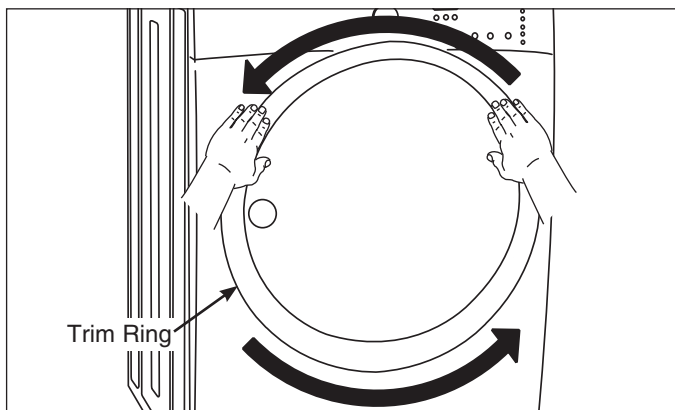

Figure 4-2.
4. Rotate the door trim approximately $\frac{3}{4}$ " counter-clockwise and pull it away from the front of the door. (See Figure 4-2)